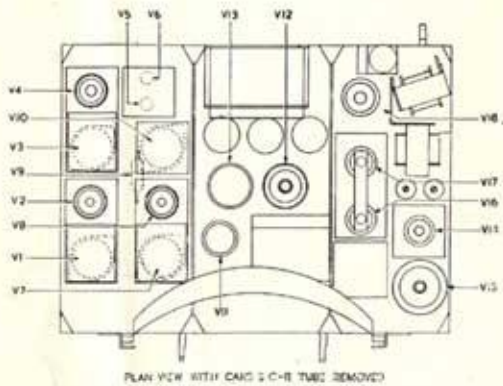

Fig. 5
- (1) Remove the back of the Television Receiver and carefully inspect it, making sure as far as possible that the valves are bedding correctly in their respective sockets (see Fig. 5) and that the appropriate flexible leads are connected to their top terminals.